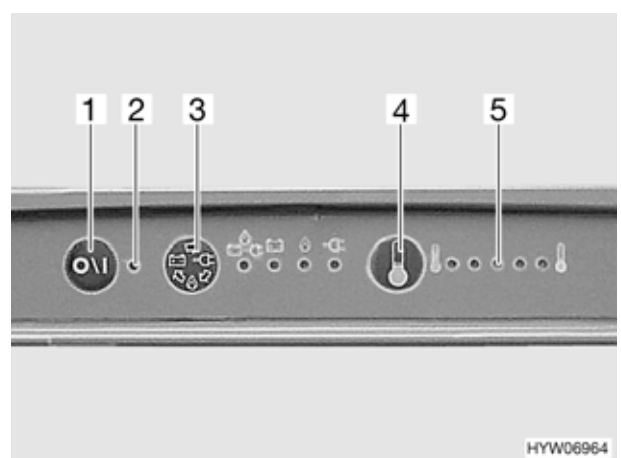

Fig. 134 Operating controls for refrigerator
If the 240 V supply is disconnected and the vehicle's engine is not running the "SES" selects the gas supply. When selecting gas operation the ignition fuse is opened automatically so gas can get into the burner. At the same time the electronic ignition is activated. If the gas flame is extinguished, e. g. by blast of wind, the ignition is activated immediately and re-ignites the gas. When the gas operation is faulty, the indicator lamp (Fig. 134,2) flashes red.
▶ Open flames are prohibited at petrol stations. If the stop takes longer than 15 minutes, the refrigerator has to be turned off at the button (Fig. 134,1).
When turned on the first time the refrigerator automatically selects the middle thermostat position. This position can be adjusted manually by using the button (Fig. 134,4). The LEDs (Fig. 134,5) show the selected thermostat position. The refrigerating temperature for the three types of energy is set with the button. It takes a few hours till the refrigerator reaches its normal operating temperature. When changing over the operation mode the thermostat setting will be maintained. The refrigerating temperature is retained regardless of the type of power being used.
- Press the key (Fig. 134,1). The green indicator lamp (Fig. 134,2) lights up.
- Adjust refrigerating temperature with the button (Fig. 134,4). The LEDs (Fig. 134,5) show the selected thermostat position.
When the gas operation is faulty, the indicator lamp (Fig. 134,2) flashes red.
The energy source can be adjusted manually by using the button (Fig. 134,3). When pressing the button, the energy source is selected in the following order:
- Press the key (Fig. 134,1). Indicator lamp (Fig. 134,2) is no longer illuminated.